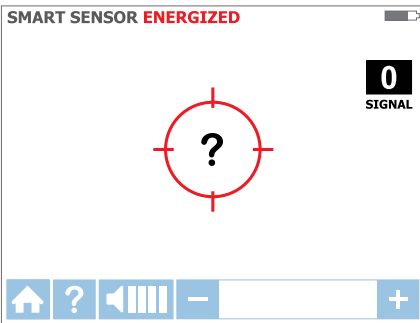

Figure 3.1c
3. Hold the receiver with the Smart Sensor on the rear of the unit facing the target area. If the screen flashes a "?" in a red target then no signal is detected. Move the Smart Sensor closer to the target area until the signal is detected and you see a directional arrow. If no signal is detected increase the sensitivity using the "+" button on the receiver. (see Figure 3.1c)\*